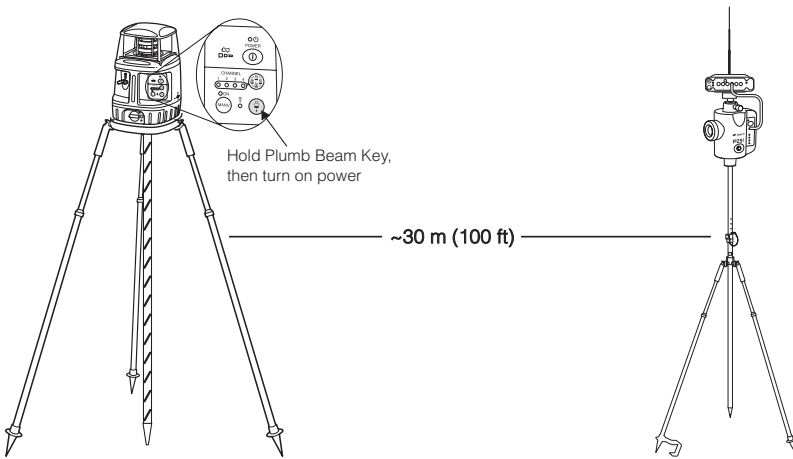

Figure 7-19. Setup Transmitter and Sensor
- Set up the PZS-1 sensor at the same level as the transmitter, on relatively level ground, and approximately 50 meters (100 feet) away. Power on the sensor and receiver (Figure 7-19). Connect the sensor and Pocket-3D controller.